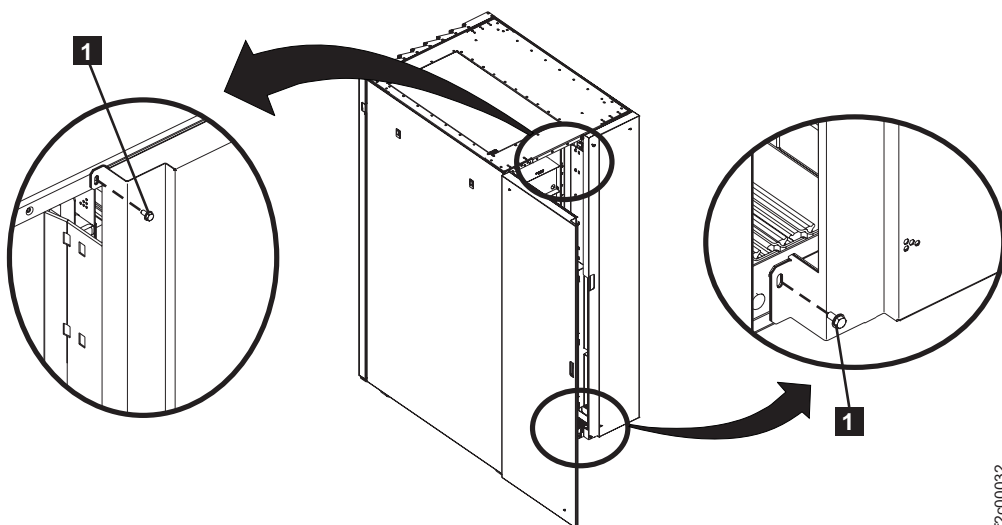

Figure 61. Removing retaining screws on right rear machine cover
- b. Remove and retain the two screws **1** and open the rear right machine cover. Refer to Figure 61.